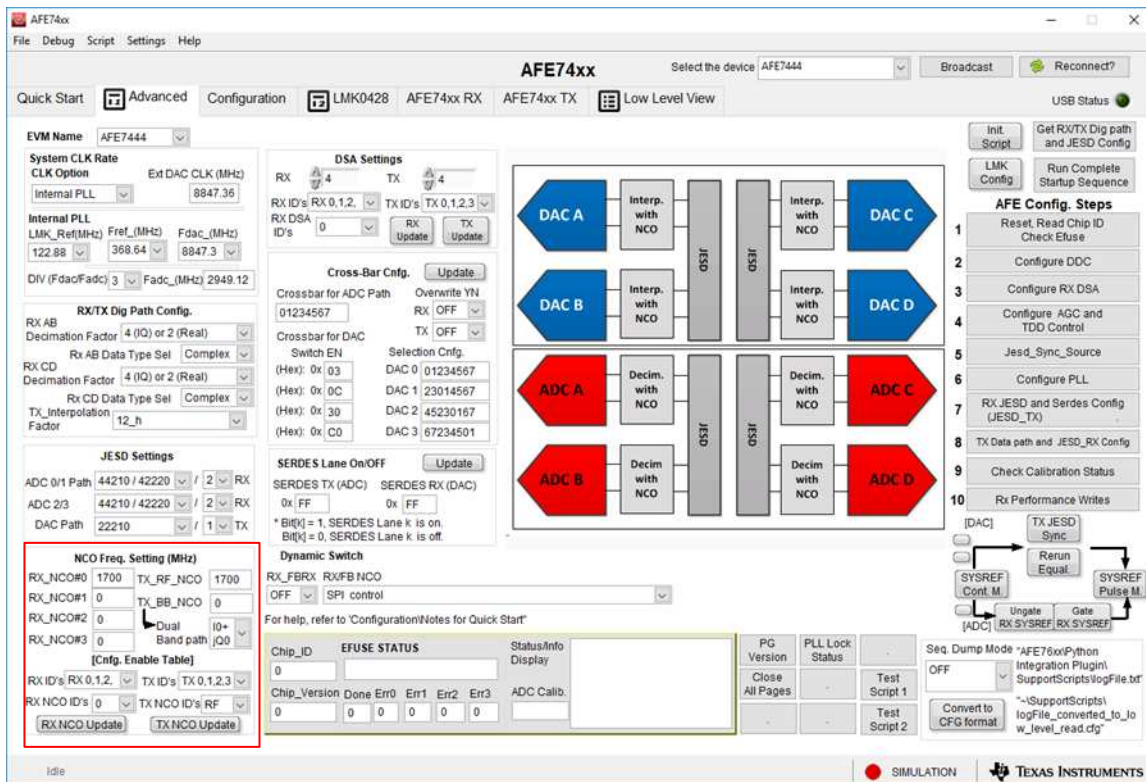

Figure 9. Adjust RX and TX NCO Values to Desired Frequencies
12. After the looped back input tone is verified, go back to the *Advanced* tab and adjust the RX and TX NCO values as desired, as shown in the red box of Figure 9. After the desired NCO frequency is entered, click the *RX NCO Update* or *TX NCO Update* button. The RX NCO downconverts the input signal to a digital baseband frequency. The baseband signal is upconverted to the frequency set by the TX RF NCO value. For example, the current RX NCO and TX NCO values are both set to 1700 MHz. If the input signal applied to the AFE74xxEVM is 1750 MHz, then the RX NCO downconverts the signal to a baseband frequency of 50 MHz. Then, the TX NCO upconverts the baseband signal to 1750 MHz.